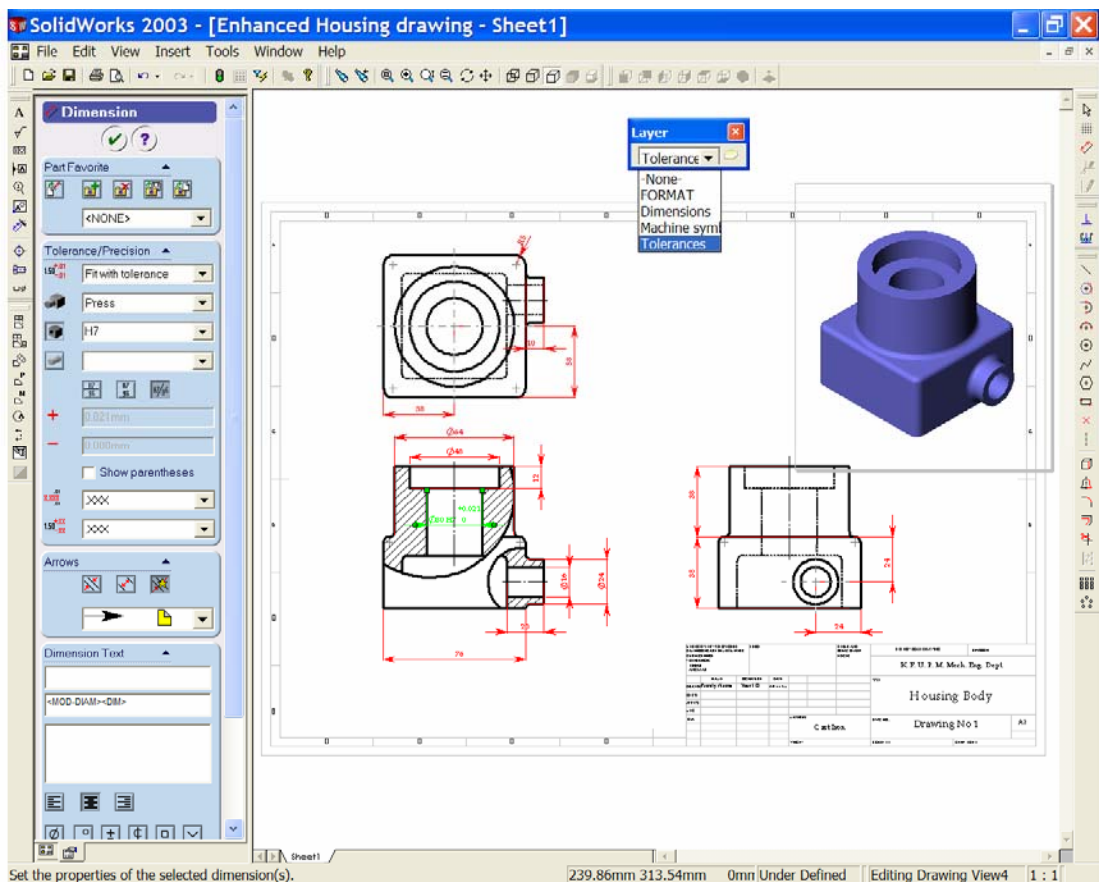

Figure 9
11. Select the $\text{Ø}30$ dimension and place it on the tolerances layer. Notice the change of colour as it moves from one layer to the other. See figure 9.